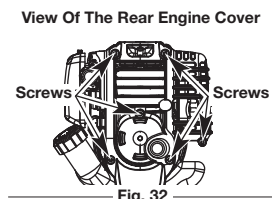

Fig. 32
1. Remove the six (6) screws on the back of the engine cover with a Flat-head or T-25 Torx® screwdriver (Fig. 32).
4. Remove the engine cover (Fig. 32).